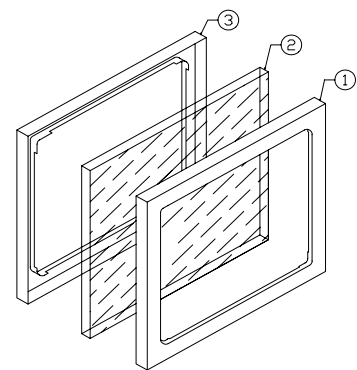

Figure 12
3. Insert the new panel into the door frame as shown in Figure 12